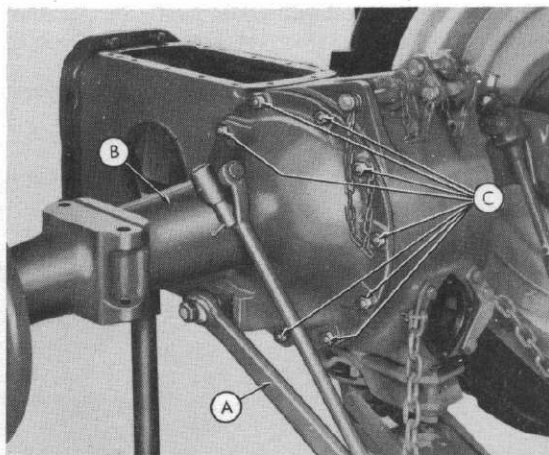

Fig. 7
Step 1—Remove the left rear wheel as shown in Figure 7, and the right rear wheel.
Step 2—Remove the left axle housing and axle assembly (B-Figure 7) from the center housing as a unit.
- a. Remove the left lower link (A-Figure 7).
- b. Remove the hex head nuts from the studs (C-Figure 7) that hold the axle housing to the center housing.